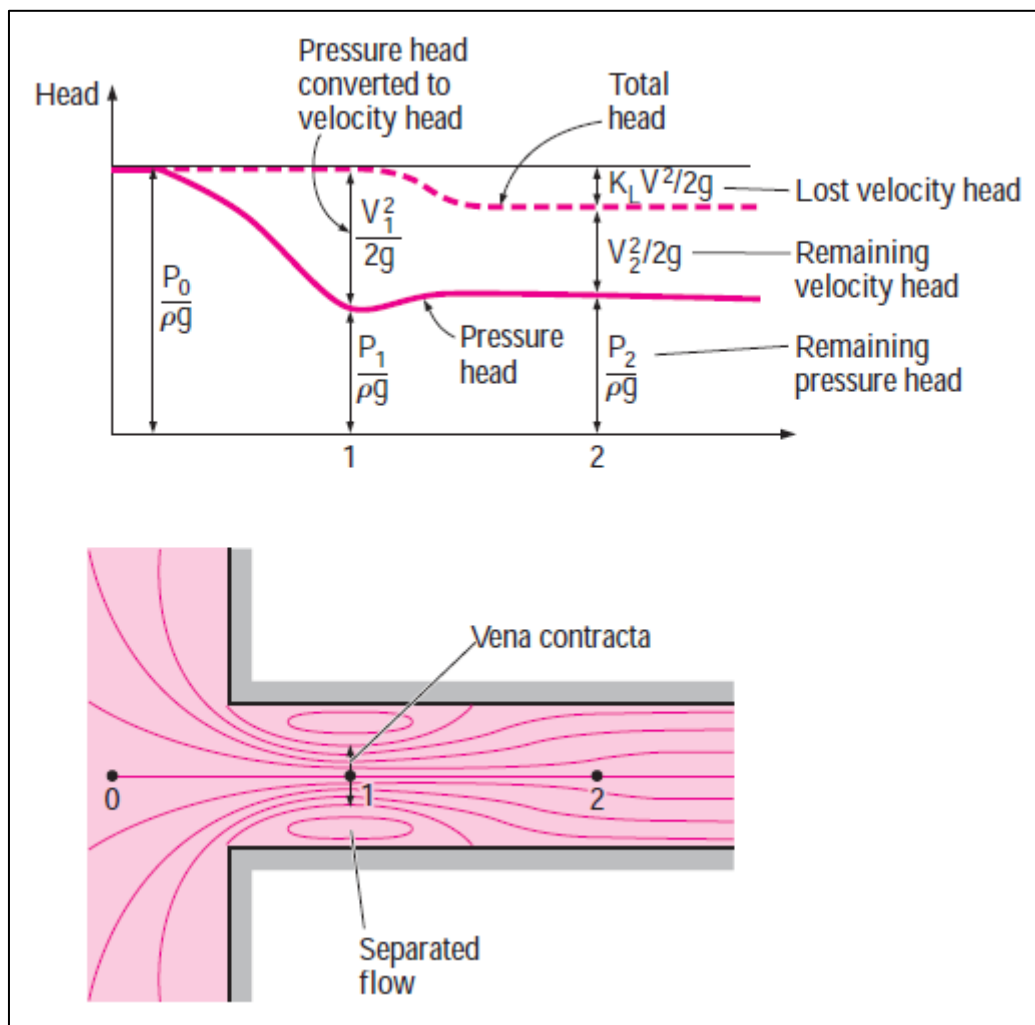

Figure 14. Graphical Representation of Flow Contraction and Sharp Inlet
- Figure 14 shows the graphical representation of flow contraction and the associated head loss at a sharp-edged pipe inlet.
From Figure 14, a sharp-edged inlet causes half of the velocity head to be lost as the fluid enters the pipe. This is because the fluid cannot make sharp 90° turns easily, especially at high velocities. As a result, the flow separates at the corners, and the flow is constricted into the vena contracta region formed in the midsection of the pipe. So, a sharp-edged inlet acts like a flow constriction.